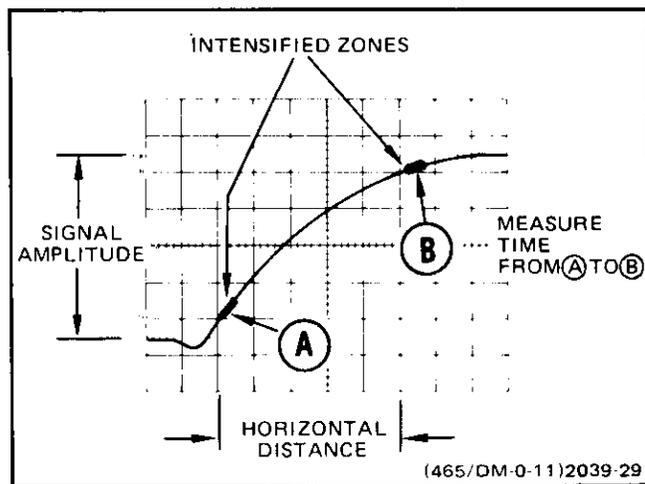

Figure 25. Rise time, differential time method.
4. Vertically position the trace so that the zero reference of the waveform touches the 0% graticule line and the top of the waveform touches the 100% graticule line (see Figure 25).
8. Adjust the B DELAY TIME POSITION control to move the start of the reference point (left-hand edge) until it just touches the intersection of the signal and the 10% graticule line (see Figure 25, Point A).
9. Adjust the Δ TIME POSITION control to move the start of the measurement point (left-hand edge) until it just touches the intersection of the signal and the 90% graticule line (see Figure 25, Point B).